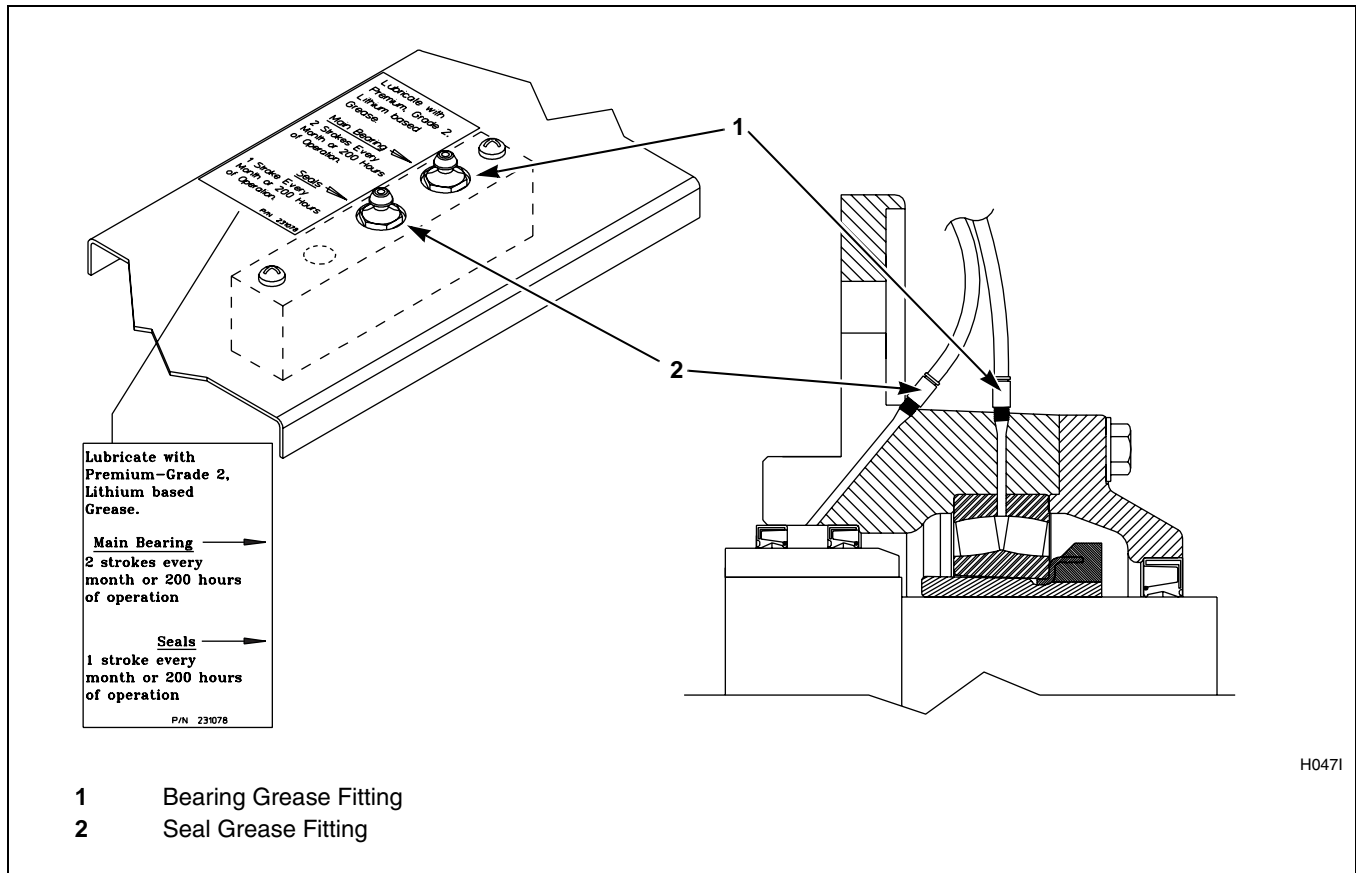

Figure 11
3. Lubricate bearings and seals each month OR after every 200 hours of operation. Refer to *Figure 11*.